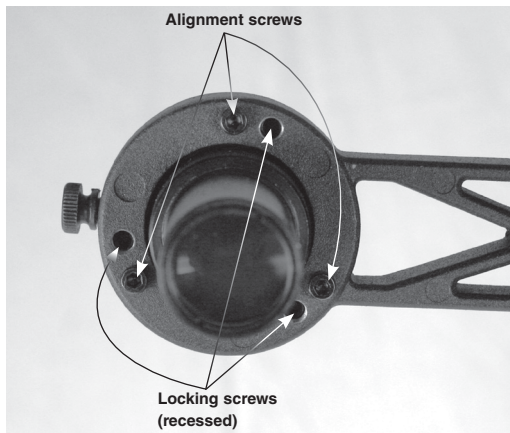

Figure 5. The screws with the raised heads on the front of the polar scope bracket are the alignment screws; the recessed screws are merely locking screws.
4. If the object moved off center, adjust the three alignment screws on the front of the polar scope bracket (they have the raised heads) (**Figure 5**) with a 2.5mm Allen key to move the object HALFWAY back to center.